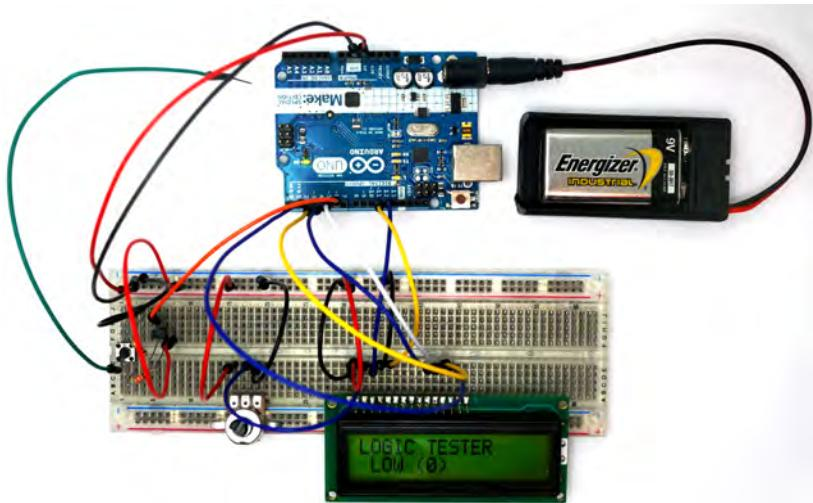
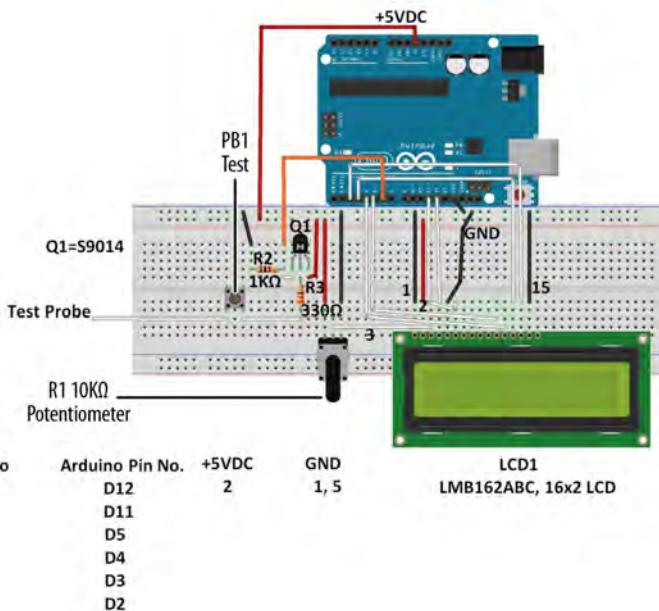

Figure 16-1. A Logic Tester with an LCD
Figure 16-2. Fritzing diagram for a Logic Tester with an LCD
The Logic Tester project in Chapter 15 allowed you to check the digital data values the Arduino uses to control motors and LEDs. The tester's two LEDs offer a quick way to see the digital data. In this project, you'll make an awesome change to the tester by displaying "HIGH (1)" or "LOW (0)" data messages on an LCD. The electronic components to build this device are shown in the Parts List. The Logic Tester with an LCD is shown in Figure 16-1.
Building this tester requires the use of an LCD. If this is your first time using an LCD, I suggest reading Chapter 14. For help adding the 16-pin male header to the LCD, see Figure 14-2 and Figure 14-3. The $10\text{K}\Omega$ potentiometer's center pin is wired to pin number 3 of the LCD. The potentiometer's remaining pins should be wired to +5VDC and ground. Place the LCD onto the solderless breadboard, as shown in Figure 16-2. LCD pin numbers 1 and 2 are wired to ground and +5VDC, respectively. Adjust the $10\text{K}\Omega$ potentiometer contrast control for the LCD for proper pixel-square visibility. For reference on how to do this, see Figure 14-4.
Complete the rest of the tester wiring using the Fritzing diagram shown in Figure 16-2.
Once the Logic Tester sketch has been uploaded to the Arduino, the LCD will display a message, as shown in Figure 16-1. Take the long jumper wire (test probe) from the pushbutton switch and attach it to the +5V source of the Arduino (for reference, see Figure 16-2). Press the pushbutton switch and the LCD will display "HIGH (1)" for the